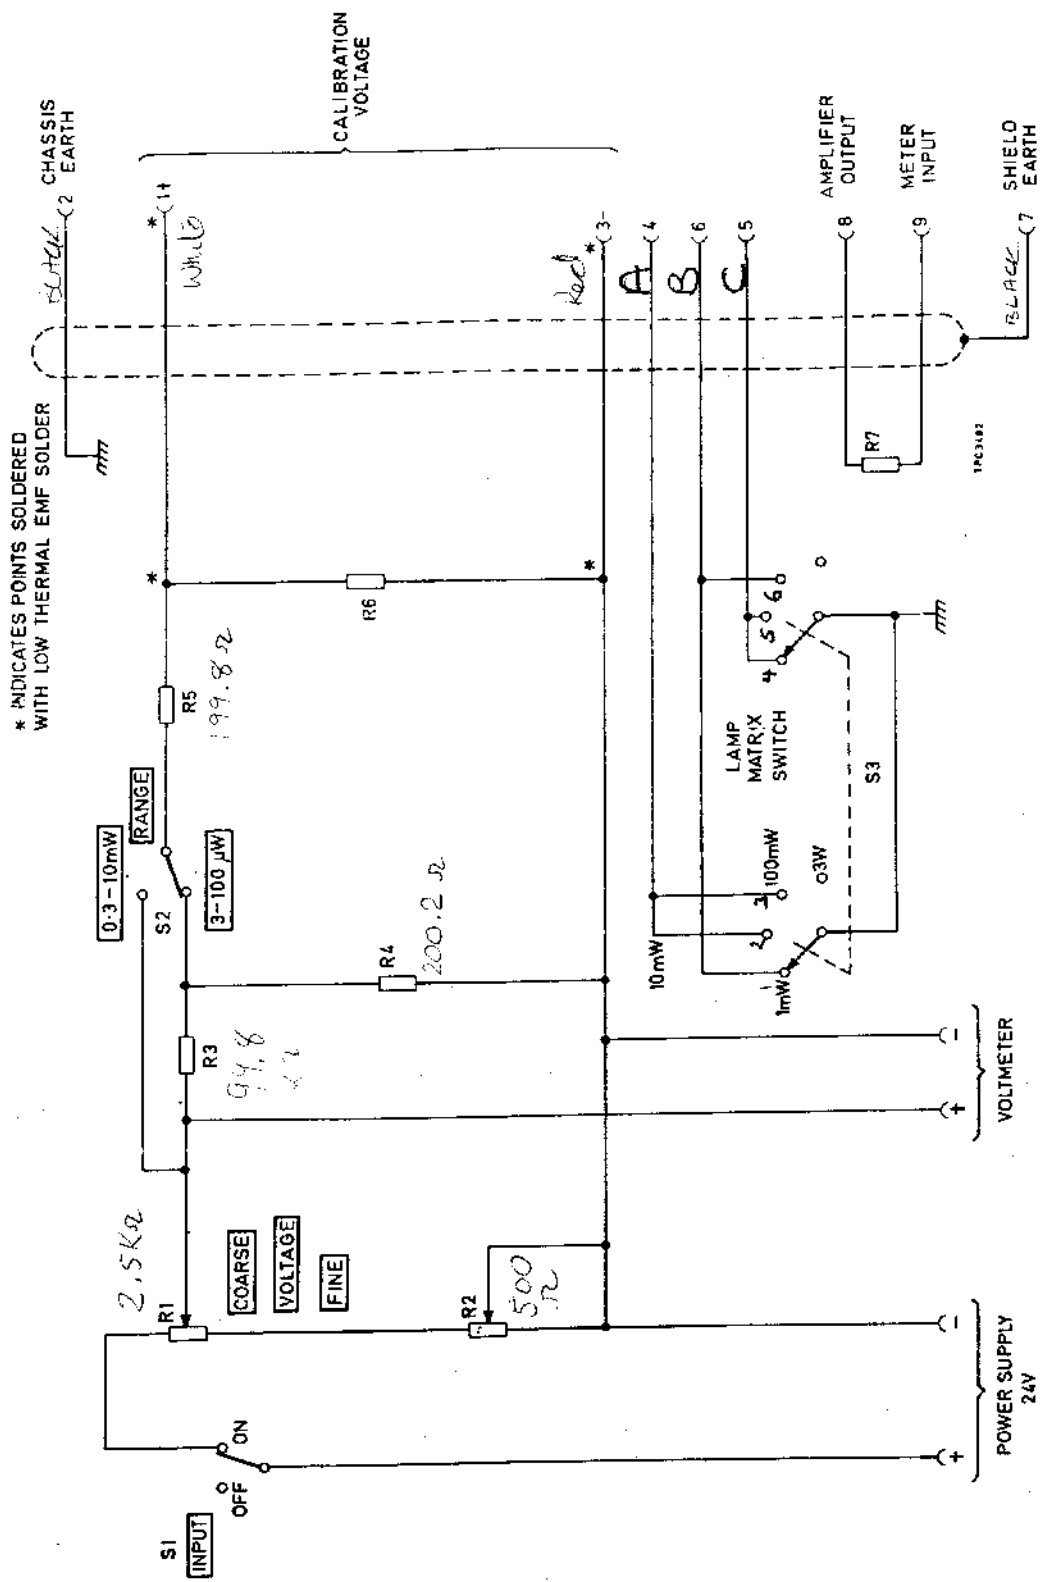

Fig. 1 Calibration test jig (d.c. calibrator) circuit diagram
3. Use the test equipment listed in Table 1 or equivalents for the test and calibration procedures. In addition, to facilitate the performance of the procedures, a d.c. calibrator is required. For this purpose the use of an MI Sanders type 305B DC Calibrator, or the jig shown in Fig. 1 is recommended. If the jig is constructed, use the components listed in Table 2 or equivalents.